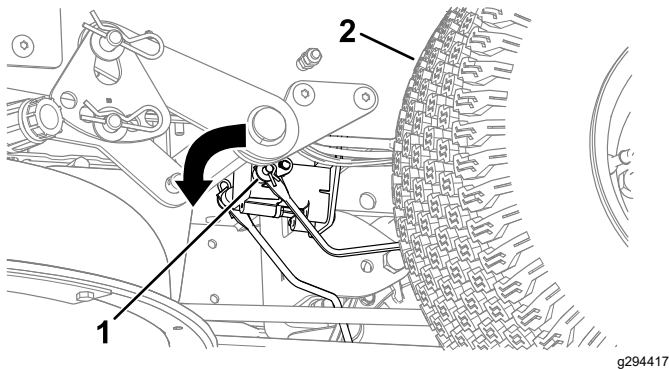

Figure 48
3. Locate the shaft on the electric brake where the brake link arms are connected (Figure 48).